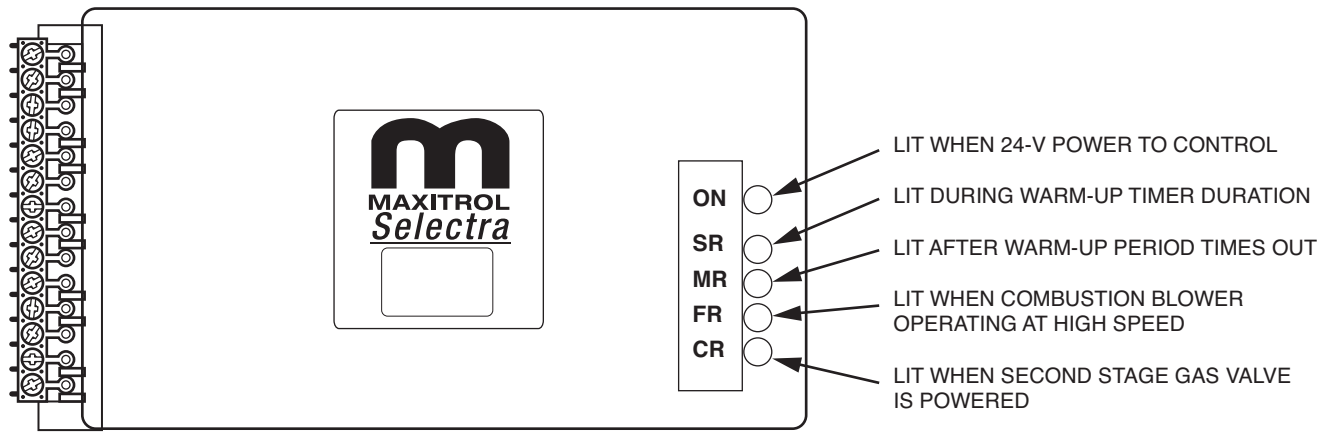

Fig. 56 — Timer Relay Control (TR1)
TIMER RELAY CONTROL (TR1) — See Fig. 56. The timer function is as follows:
When the system is powered up 24 VAC will be applied to the ignition control (IC) terminals 24VAC/R and to the Timer Relay Control (TR1). The ignition control will reset, perform a self check routine, initiate full time flame sensing, flash the diagnostics LED for up to four seconds and enter the thermostat scan standby state. The amber light on the TR1 will be lit indicating it is in the ready position. See Fig. 56.